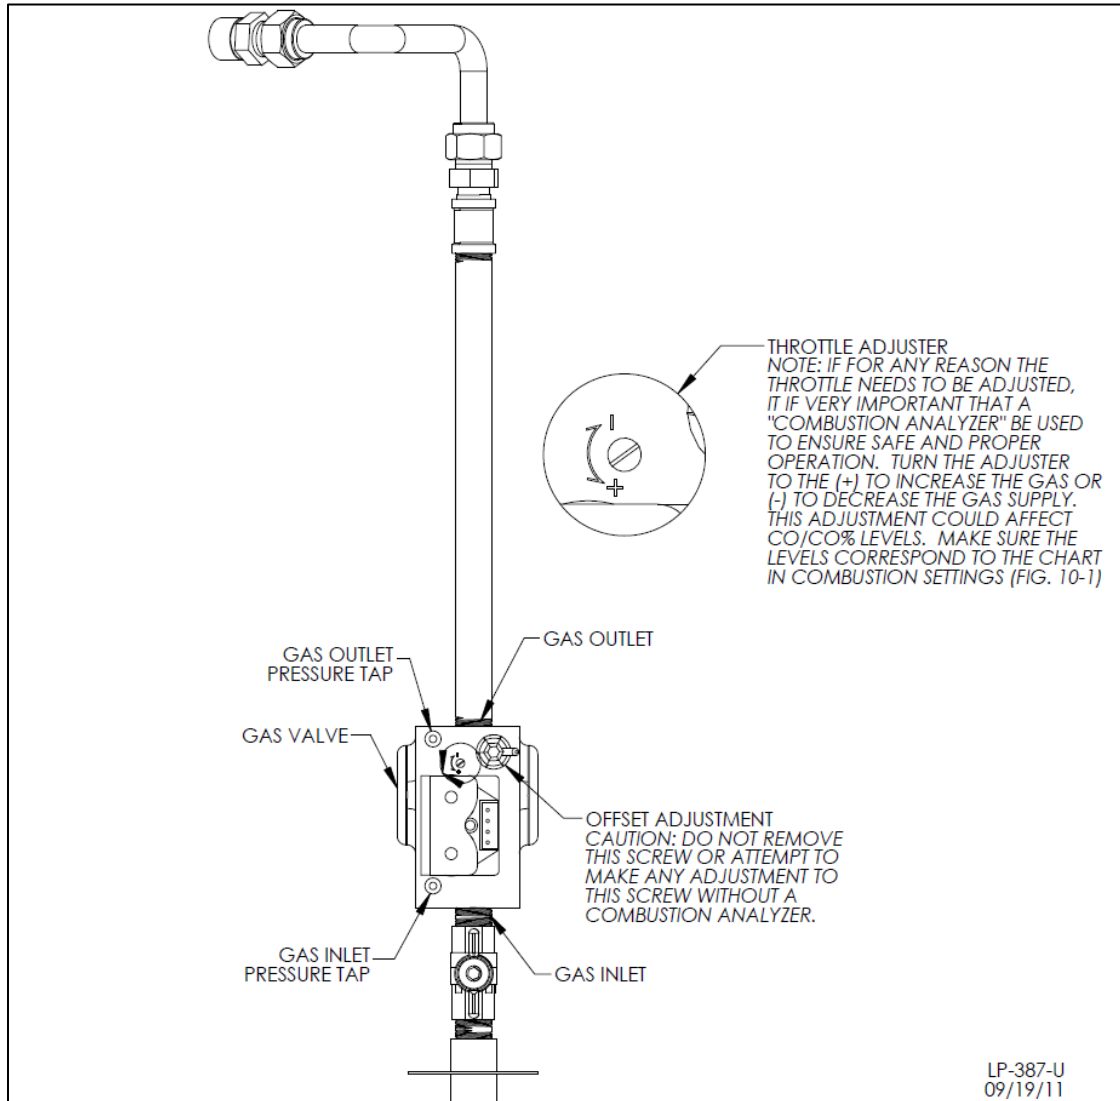

Figure 29 – Gas Valve Detail
2. Loosen the pressure tap with a small screwdriver. Refer to Figure 29 for location.